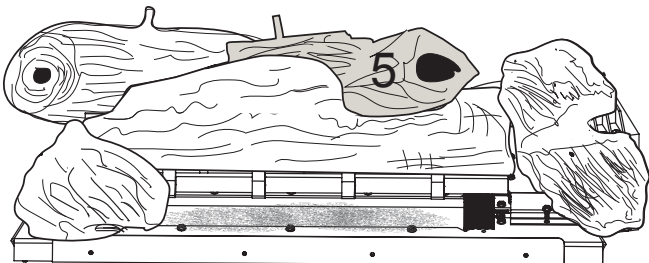

Figure 6.15 - Log #5 Placement
6. Hold log #5 with wide end away from you. Place log #5 by positioning it over the notch on log #1 and by sliding the wide end toward the back. When in place, the left rear of log #5 should come in contact with log #4 and the left side of the slot on log #1. It should match with log #4. See Figure 6.15.